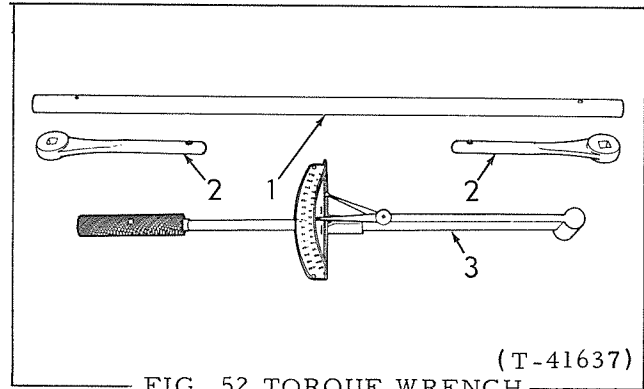

FIG. 52 TORQUE WRENCH AND EXTENSIONS
- k. Lubricate threads of front bearing retaining nuts and threads on shafts with graphite base grease; install front bearing retaining nuts on their respective shafts. Using special sockets, Figs. 33 and 34, and torque wrench and extensions, Fig. 52, torque front bearing retaining nuts to 480 to 520 lbs. ft. (66.36-71.40 kg-m).